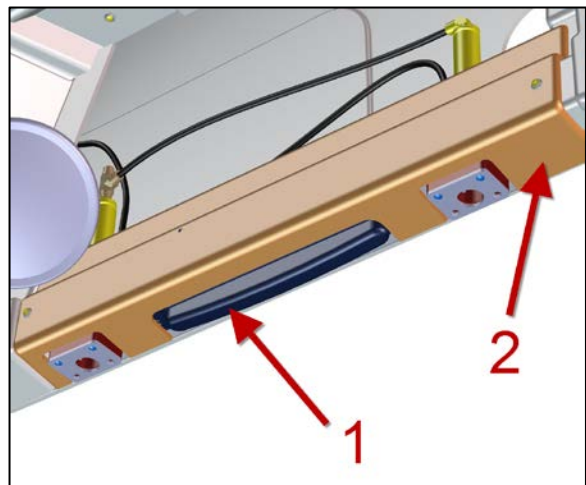

Figure 7
11. Install light #830008 with two screws #500854 (item 1, Figure 7).
12. Install new entrance door upper moulding #3210118 (item 2, Figure 7).